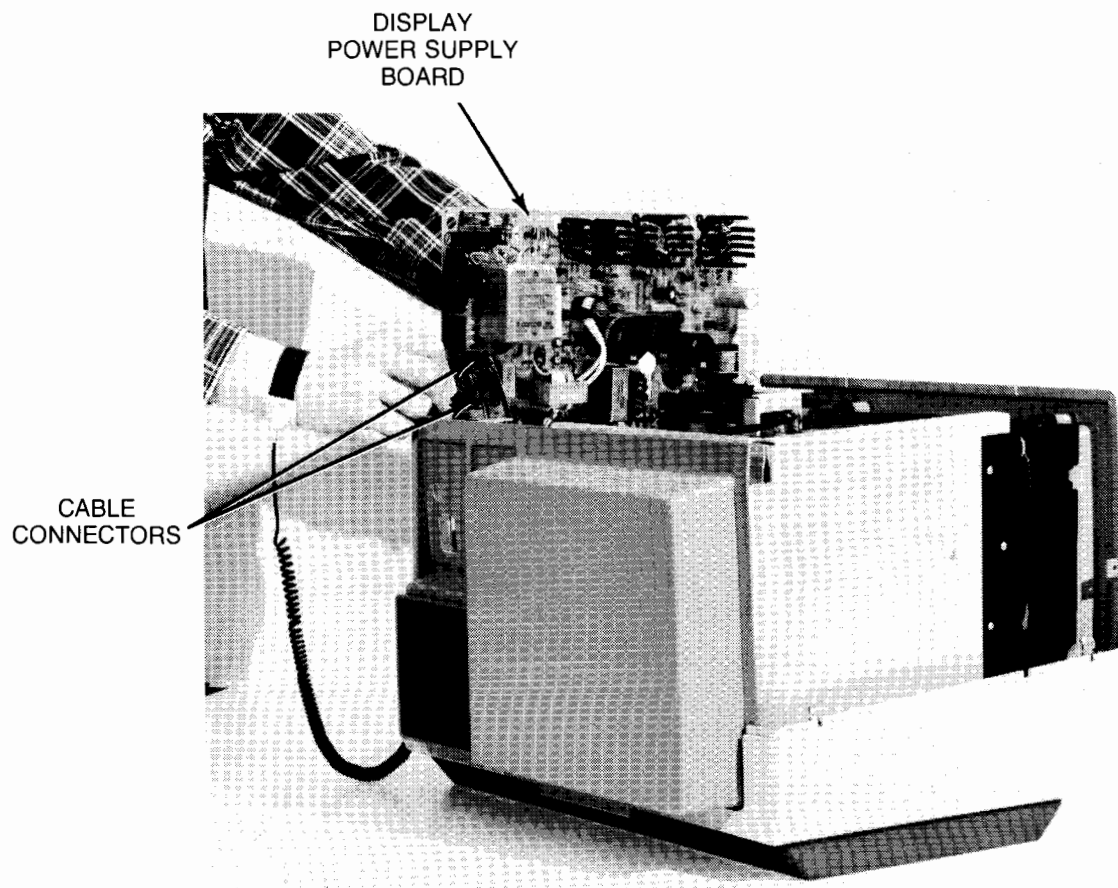

Figure 4-81. Removing Display Power Supply Board
5. Slowly lift display power supply straight up until two cable connectors are accessible (Figure 4-81).
6. Disconnect two cable connectors (Figure 4-81) and remove display power supply board from display.